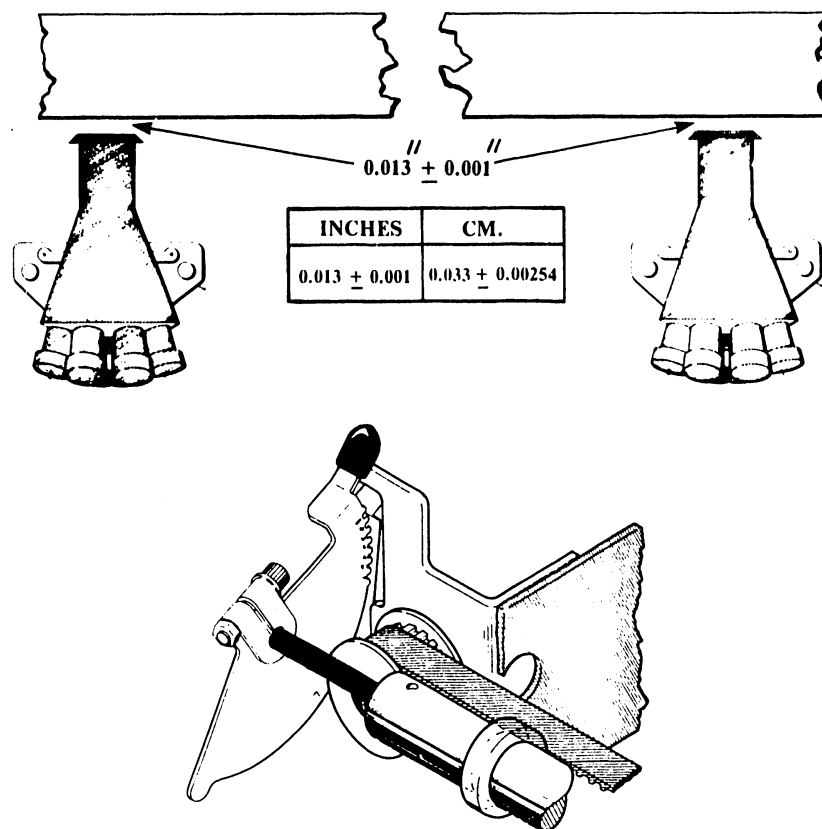

FIGURE 6-9 STRIKER BAR ADJUSTMENT CHECK
- 1) With the print head (see Figure 6-9) in the far left carriage position and the ribbon cartridge removed, move the head-adjustment arm to position 1 (move the print head as close as possible to the striker plate). A 0.013" (0.033cm) gauge should just fit between the striker plate and the face of the bearing.